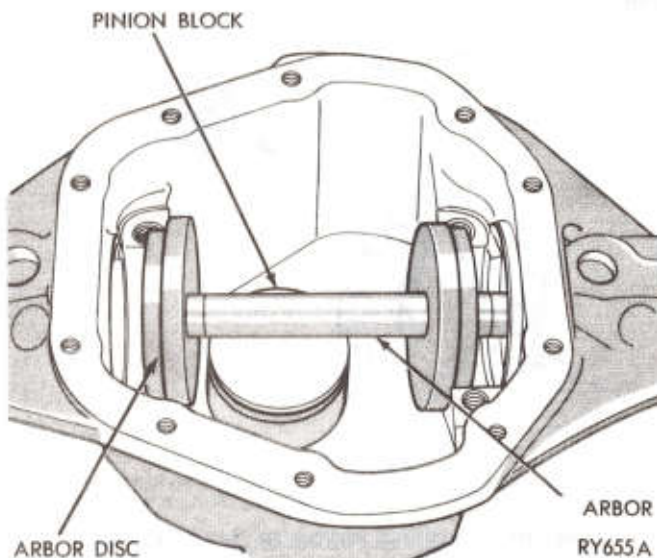

Fig. 32—Arbor Discs and Arbor in Position
(2) Mount arbor discs Tool D-116-2 on Arbor Tool D-115-3 and install into cross bores of carrier (Fig. 32).